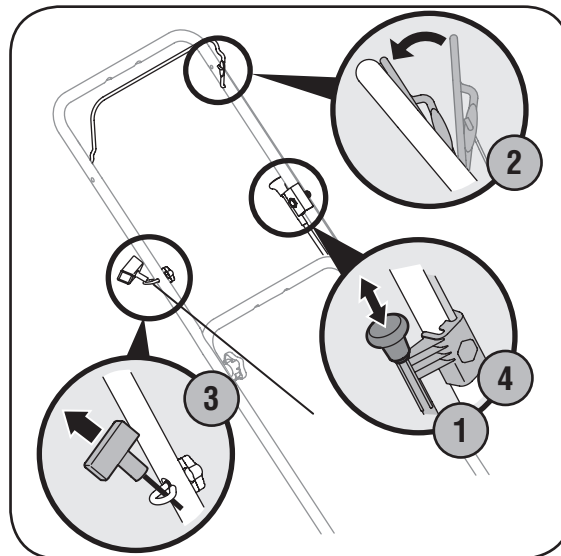

Figure 9-3: Starting the mower. (Your mower may differ from that shown)
1. Pull out the choke knob located on the left side of the upper handle. See Figure 9-3.